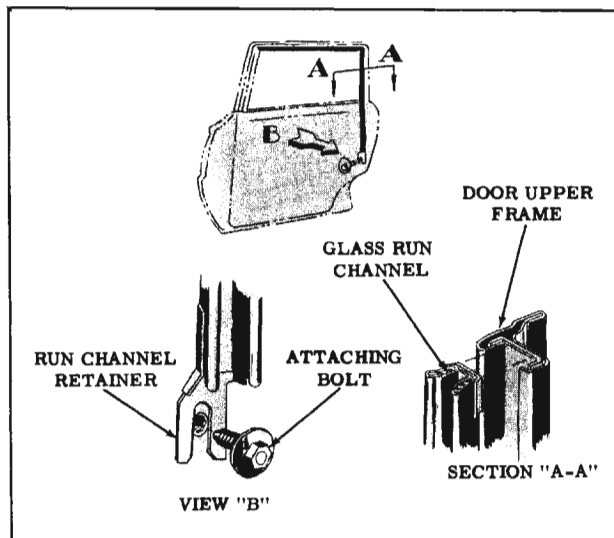

Fig. 16-52 Glass Run Channel (35, 45, 19 & 69 Styles)
- On "35", "45", "19" and "69" styles, through large access hole, remove screw securing lower end of glass run channel at door lock pillar and raise end of channel to expose lock assembly. (Fig. 16-52)
3. On 19-69-35-45 styles, remove screw securing lower end of glass run channel at door hinge pillar to gain access to spring clip securing rod to lock. (Fig. 16-52)
3. On 19-69-35-45 styles, remove glass run channel lower attaching screw to gain access to spring clip securing rod to lock. (Fig. 16-52)